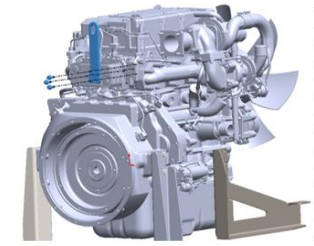

Figure 1
1. Remove the lift eye and associated bolts on flywheel and fan side that are supplied with the engine as shown in figure 1 on the last page.